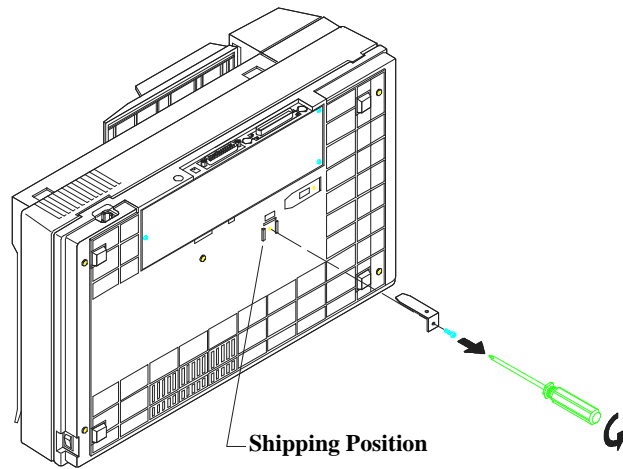

Figure 2-1 - Removing the Shipping Bracket
2.1.1 **Removing the Shipping Bracket (refer to figures 2-1 and 2-2)**
Note: For steps (iii) to (vi) please refer to figures 2-1 and 2-2